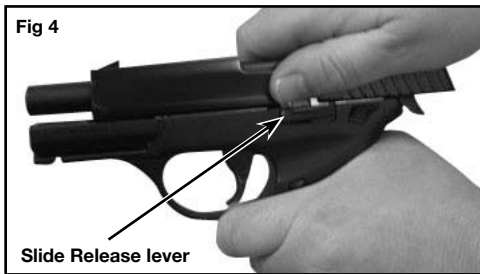

Fig 4
- K. Slide Release lever (See Fig. 4)
- Cock the airgun by pulling the slide all the way back to the rearward position and slowly releasing it, allowing it to move forward (Fig. 4).